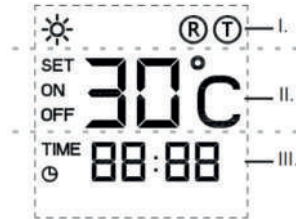

Figure 3
- To activate the timer, press the timer button (Figure 2, pos.3) on the control panel. The timer indication will appear on the display in area Figure 3, pos. III. Press the button plus (Figure 2, pos.5) or the button minus (Figure 2, pos.4) to set the countdown time between 1 hour and 24 hours. The display shows the ime in descending order when the device will switch off automatically